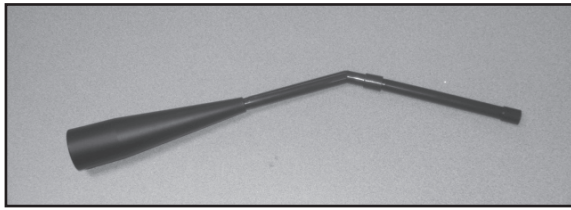

Figure 24.1
- c. Assemble the crevice tool from the micro cleaning kit to attach to a Shop Vac. **Figure 24.1.**